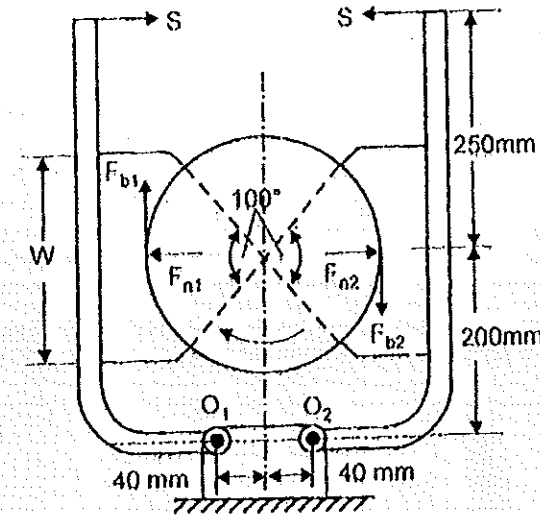

Fig 15 (b)
- b) A double shoe brake as shown in fig 15 (b) is capable of absorbing a torque of 1500 N-m. The diameter of the brake drum is 400 mm and the angle of contact for each shoe is 100° . If the coefficient of friction between the brake drum and lining is 0.4, find (i) the spring force necessary to set the brake and (ii) the width of the brake shoe, if the bearing pressure on the lining material is not to exceed 0.3 N/mm^2 . (13)